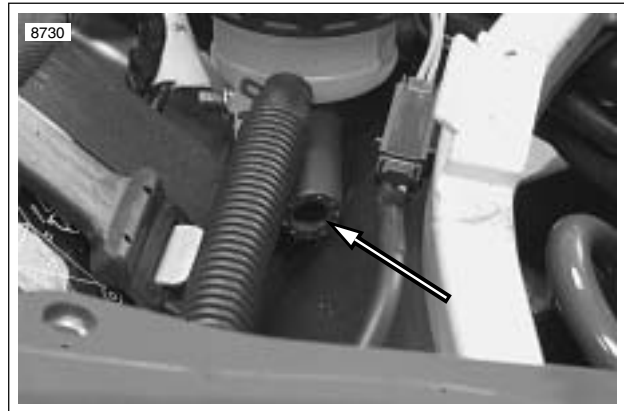

Figure 3-27. Transmission Vent Line
34. See Figure 3-27. Cut the two tie wraps holding transmission vent line and pull vent line out of frame leaving it attached to engine.